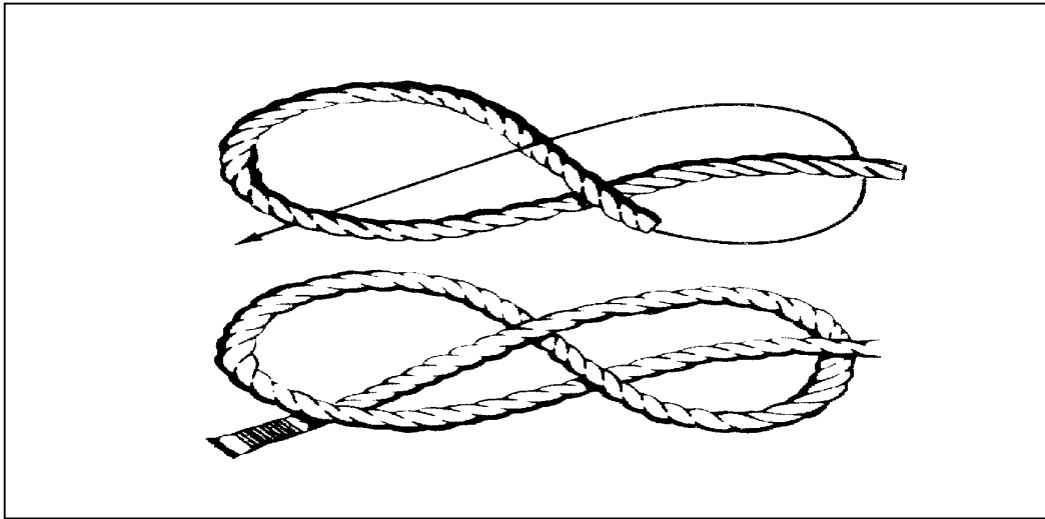

Figure 11-2. Figure-eight knot
d. Figure-Eight Knot. The figure-eight knot (Figure 11-2) forms a larger knot at the end of a line than an overhand knot. It is used to keep a line from slipping through the center of a grommet or a loop in another line.